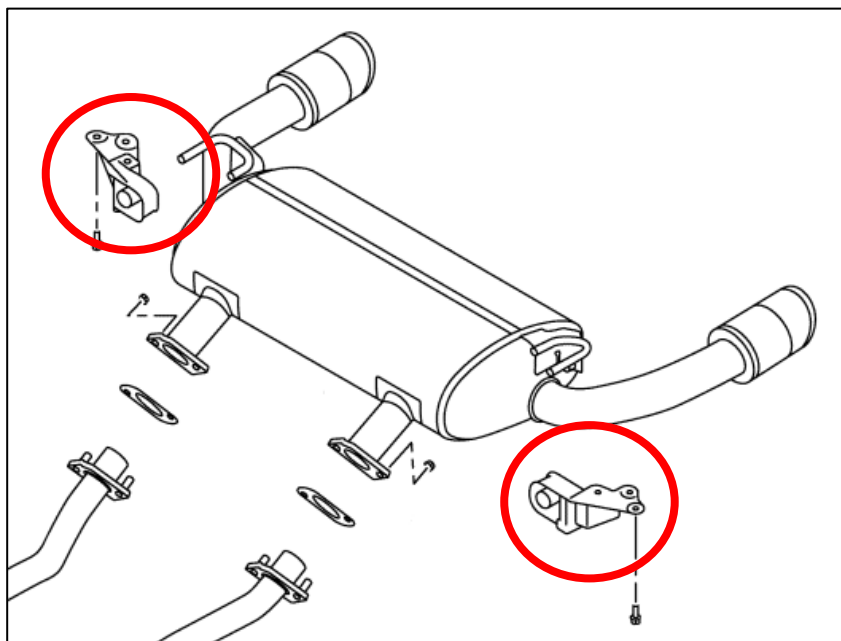

Figure 2
4. Remove the (2) two OE Exhaust Hangers that support the OE Muffler. Each is held on by (3) three bolts, retain this hardware. *Figure 2.*